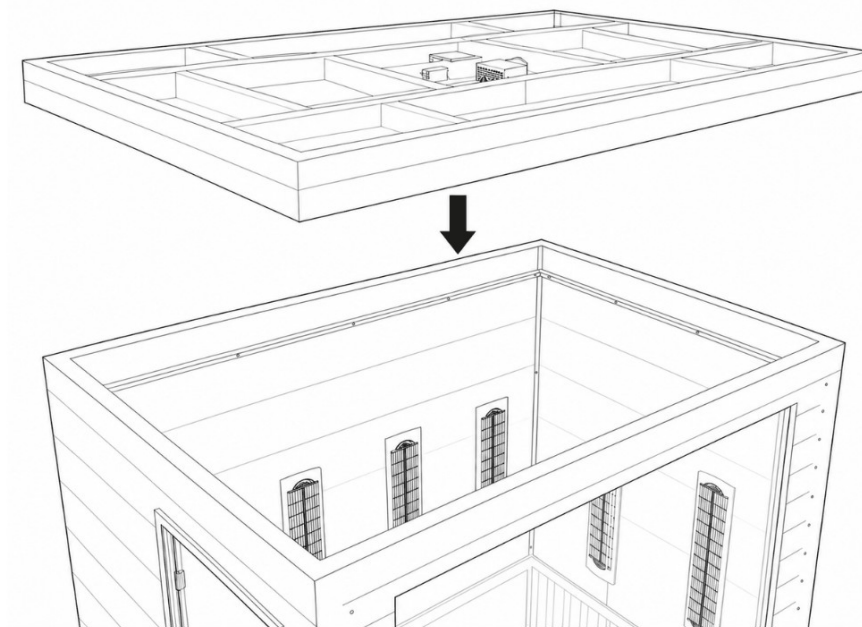

Figure 11. Interior Ceiling Panel lowered onto the wall ledge, wire side up.
- Working from the ladder, lower the Interior Ceiling Panel onto the ledge near the top of the walls until it sits flush on all four sides (Figure 11).